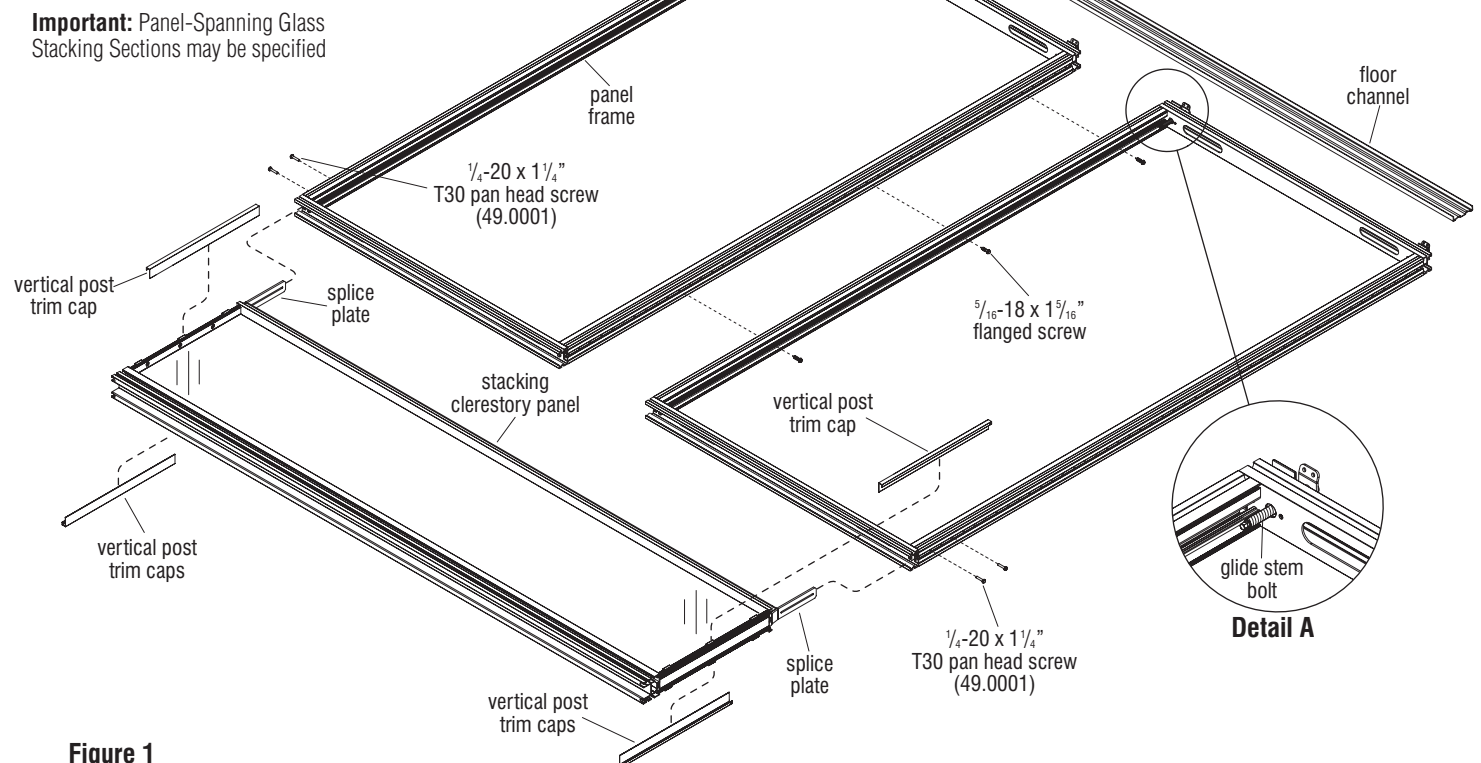

Figure 1
carefully lay the panels flat onto the floor with the no-panel side face up, and in the sequence as specified by the space-planning layout. Identify the panel pair (or three) which will receive one glass stacking section above, and carefully align the panels together for assembly. Using three evenly spaced  $\frac{5}{16}$ -18 x  $1\frac{5}{16}$ " flanged screws at pre-drilled holes in the panel's vertical frame uprights, secure the panels together (Figure 1).
4. Locate the spanning glass stacking section which will install above the assembled panels. Remove all four vertical post trim caps as illustrated (Figure 1).
5. Carefully lay the spanning glass stacking section onto the floor above the joined panels and slide the stacking section's splice plates into the extrusions of the panel's vertical frames. Pressing further, tightly engage the bottom of the stacking section into the top horizontals of the joined panel frames (Figure 1).
6. While holding the spanning glass stacking section tight to the top of the joined panels, use  $\frac{1}{4}$ -20 x  $1\frac{1}{4}$ " T30 pan head screws (49.0001), two at each vertical panel top and secure the splice plates of the stacking section to the holes in the vertical members of the panel frames as illustrated (Figure 1).
7. With the "panels with spanning stacking section" fully assembled and laying on the floor, use a power drill, 18" extension with  $\frac{5}{16}$ " socket twisting counter-clockwise to retract all glide stem bolts up into the bottom of the panel, to their lowest glide setting (Figure 1 & Detail A).